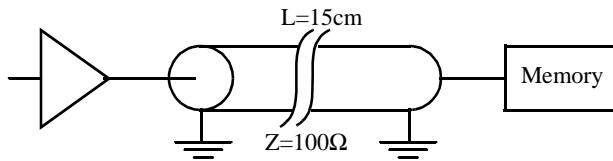

Figure 0.3 The driver, the connecting copper wire and the memory block being accessed.
5. [M, None, 4.x] To connect a processor to an external memory an off-chip connection is necessary. The copper wire on the board is 15 cm long and acts as a transmission line with a characteristic impedance of 100Ω (See Figure 0.3). The memory input pins present a very high impedance which can be considered infinite. The bus driver is a CMOS inverter consisting of very large devices: (50/0.25) for the NMOS and (150/0.25) for the PMOS, where all sizes are